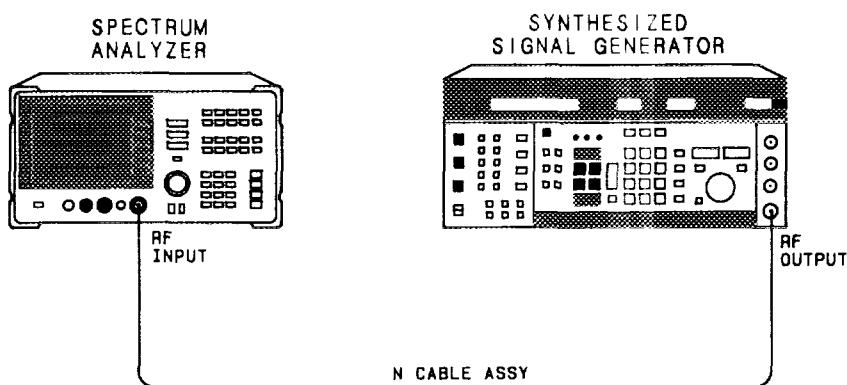

Figure 3-10. Residual FM Test Setup
1. Connect the equipment as shown in Figure 3-10.